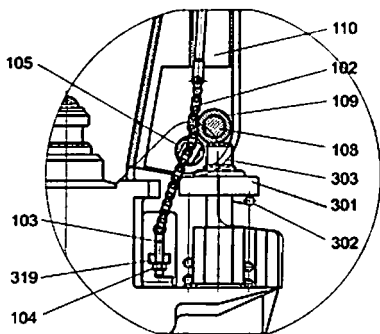

Fig. 3
2.2 Let control handle(117 or 120G) to the 'LOWER' position, then pass the adjusting nut(104), adjusting bolt(103) and chain(102) through the hole of axle(105) with your hand (See fig. 3).